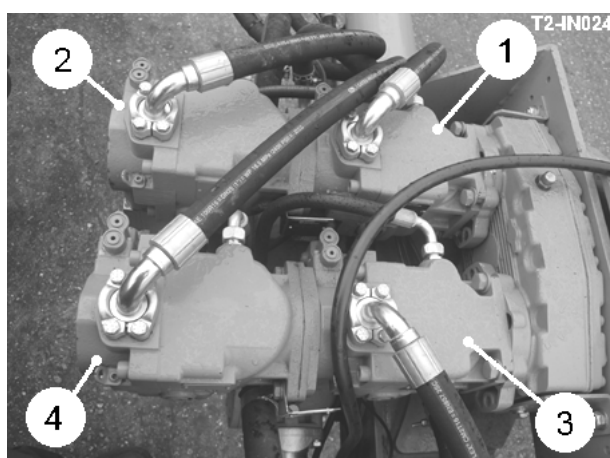
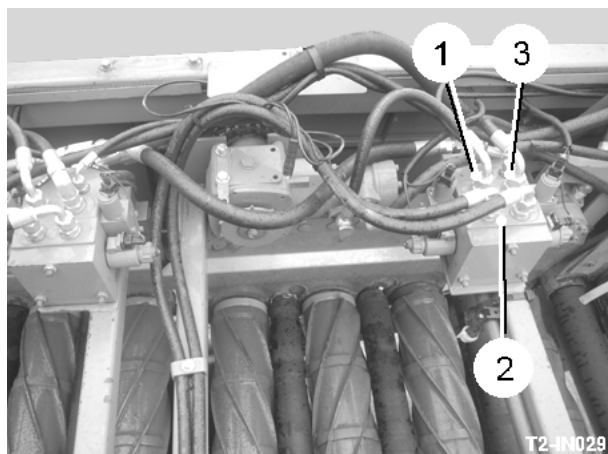

Fig 27
Fig 31
The pump (item 1, fig 27) supplies the powered axle. From the pump the feed is into the valve (item 1, fig 28). The axle drive is switched for forward and reverse from the slave box or the service terminal. The **+** button overrides the external pressure control valve (item 2, fig 28) and brings the maximum system pressure to the pump maximum.
The pump (item 2, fig 27) powers the 2nd Omega separator Unit. From the pump the feed is into the valve (see fig 29). On/off control and scroll speed is proportionally controlled from the service terminal. The clod rollers are in a series circuit fed from a double-acting valve allowing the clod roller set to be reversed. This also enables the operator to reverse the rollers to eject a blockage. A manual reversing valve is fitted to each clod roller motor allowing individual rotations to be set. The remaining valve section feeds the Omega transfer unit. A pressure transducer mounted next to the circuit filter monitors the working pressure within the circuit.
The pump (item 3, fig 27) powers the digger web, sieving web and rotary agitators. From the pump the feed is into the valve (see fig 30). On/off and speed control is from the service terminal. The digger web speed should be adjusted to give a consistent crop take-away from the shares, and the sieving web speed should be adjusted to give a consistent crop take-away from the digger web. The agitators should be used to the minimum to separate the loose soil from the crop.
The pump (item 4, fig 27) powers the 1st Omega separator unit. From the pump the feed is into the valve (see fig 31). On/off control and scroll speed is proportionally controlled from the service terminal. The clod rollers are in a series circuit fed from a double-acting valve allowing the clod roller set to be reversed. This also enables the operator to reverse the rollers to eject a blockage. A manual reversing valve is fitted to each clod roller motor allowing individual rotations to be set.